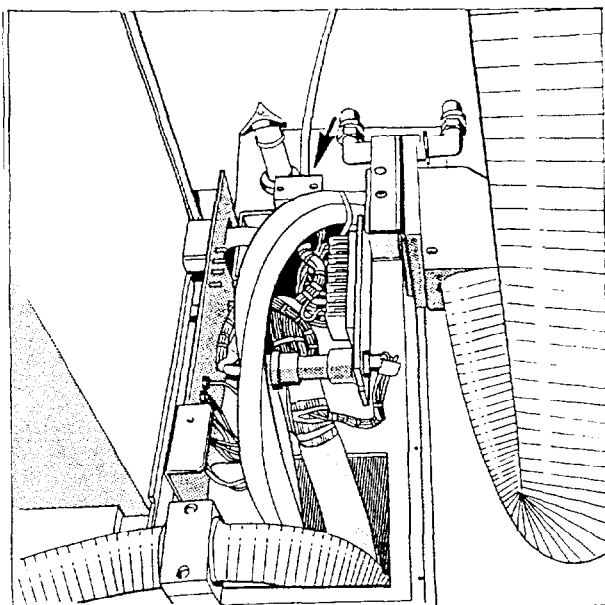

Fig. 19
- If not already done, plug the connector of the footswitch connection cable into socket X1 in the cable distributor and fasten the cable with the cable clamp (↗/Fig.19).